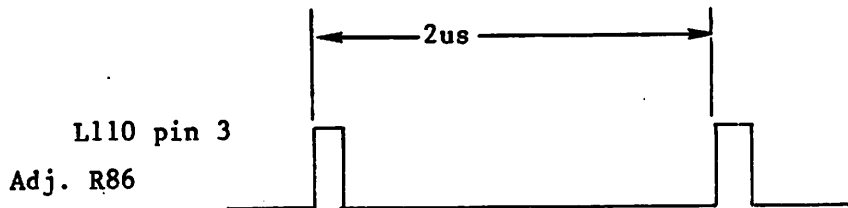

Figure 3-2
- A. Attach the channel 1 (oscilloscope) probe to L110 pin 3. Vertical deflection 2v/cm, Sweep rate .5us/div, Trigger internal positive slope on channel 1, Display channel 1 only. With the system reading sector 17385\*, adjust R86 until a period of 2us is acquired (See figure 3-2).